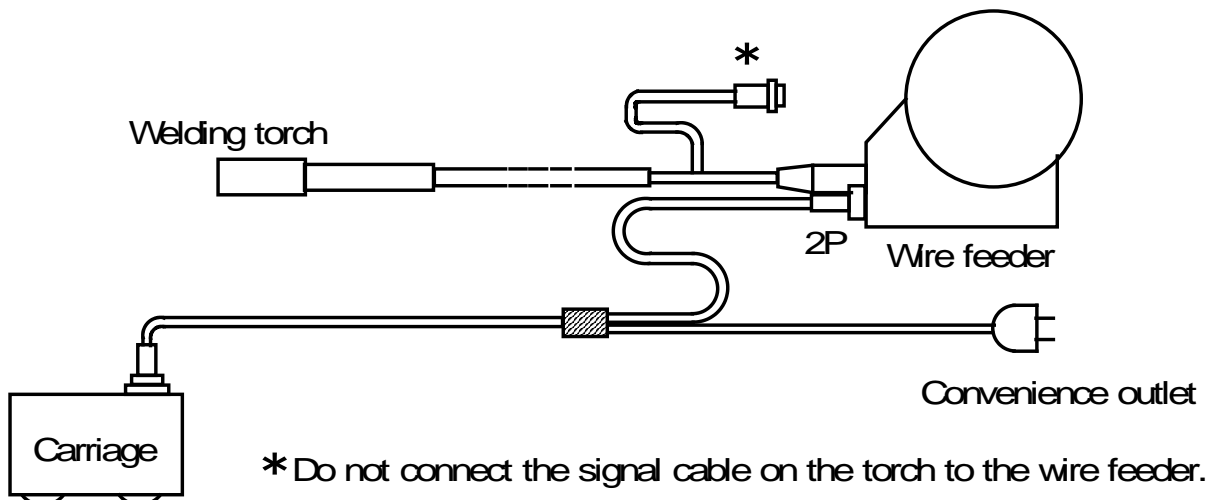

Fig.6 System connection diagram
Conduct welding in the following manner, while referring to the Fig. 6 "System connection diagram" and the operation procedure in item 5.